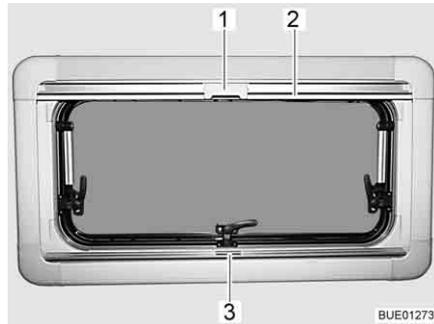

Fig. 63 Hinged window
Closing: ■ Grip the Roman shade using the holding bar (Fig. 63,3), pull it from the bottom to the top and then release it at the desired height. The Roman shade will stay at this height.
Closing: ■ Pull the insect screen down using the holding bar (Fig. 63,2), until it touches the holding bar of the Roman shade (Fig. 63,3).
■ Clip the catch (Fig. 63,1) on the insect screen into the handle of the Roman shade.
Opening: ■ Push the catch (Fig. 63,1) on the insect screen inwards.
■ Move the insect screen back slowly on the holding bar (Fig. 63,2).